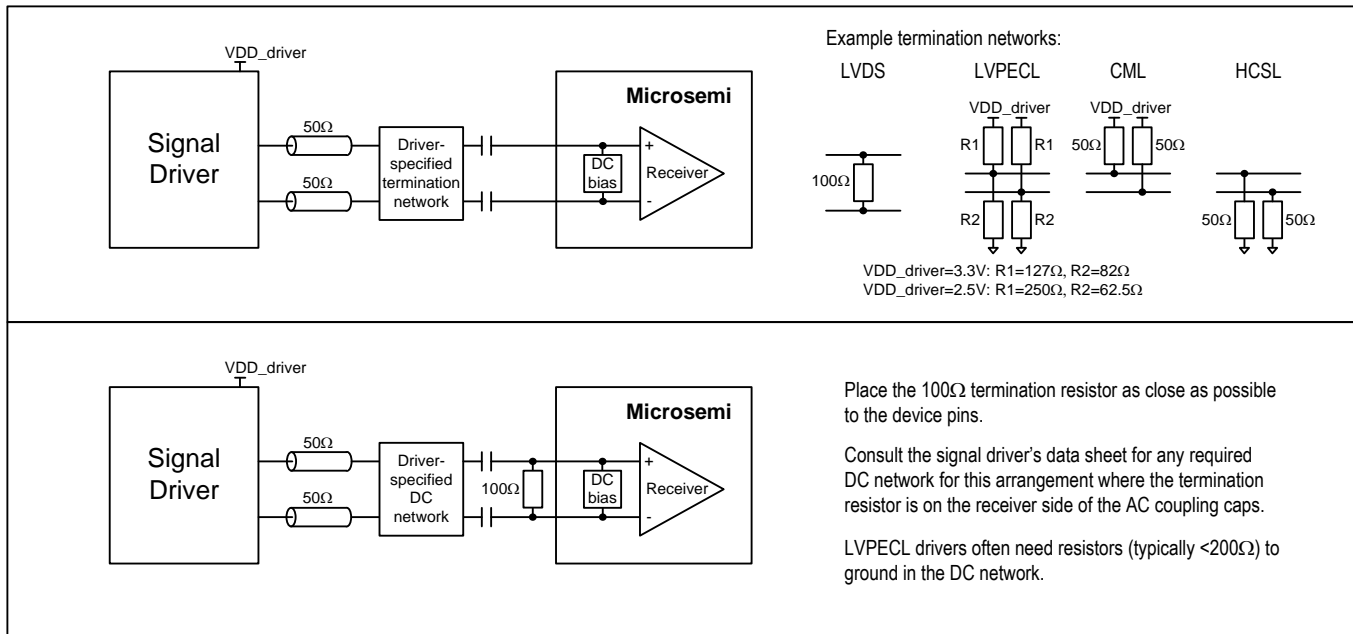

Figure 20 - Example External Components for Differential Input Signals
- Note 3:** **Differential signals.** The differential inputs can easily be interfaced to neighboring ICs driving LVDS, LVPECL, CML, HCSSL, HSTL or other differential signal formats using a few external passive components. In general, Microsemi recommends terminating the signal with the termination/load recommended in the neighboring component's data sheet and then AC-coupling the signal into the ICxP/ICxN pins. See Figure 20 for details. To connect a differential signal to IC3, AC-couple one side of the signal to IC3P and AC-couple the other side to VSS. For DC-coupling, treat the input as 1.8V CML.